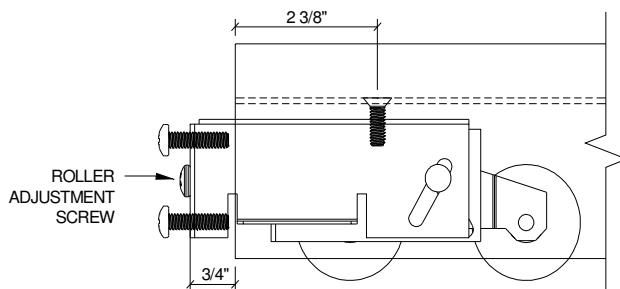

Figure 4:
8. Adjust the roller assemblies (2 required per "X" panel) to the full up right position using the adjustment screw (Figure 4).